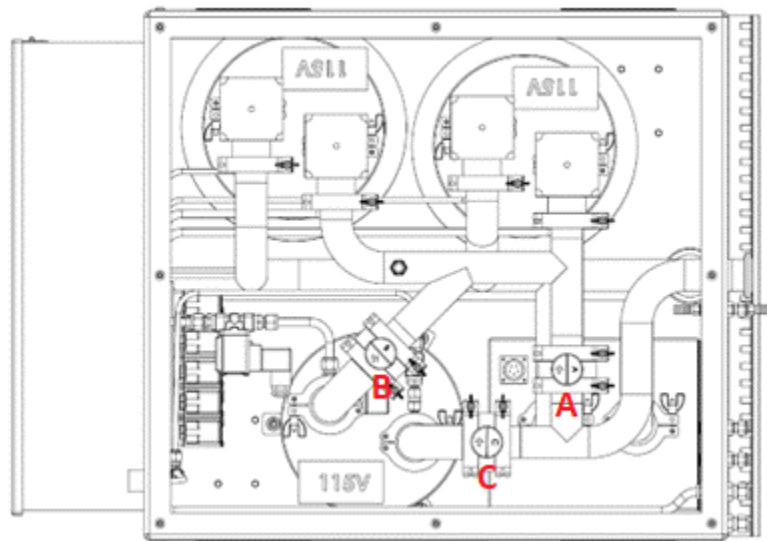

Figure 2 - Top view of Gas Purifier with Regenerable Solvent Removal
2. Open the bypass valve (labeled A in FIGURE 2 below). This is located in the Gas Purifier. The top must be removed to access the valve.
- 10 Upon completion of the solvent regeneration, open the column isolation valves (B & C), then close the Solvent by-pass valve (A).